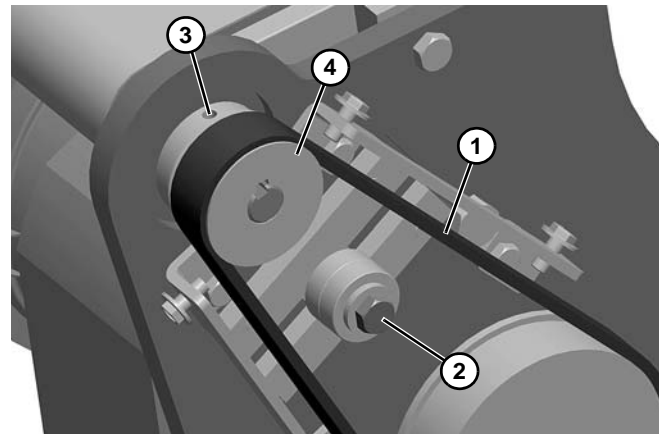

Figure 20
- Remove tension on timing belt (**Figure 20, item 1**) by loosening tensioner screw (**Figure 20, item 2**).
- Loosen set screw (**Figure 20, item 3**) on driven pulley (**Figure 20, item 4**). Remove driven pulley and timing belt.